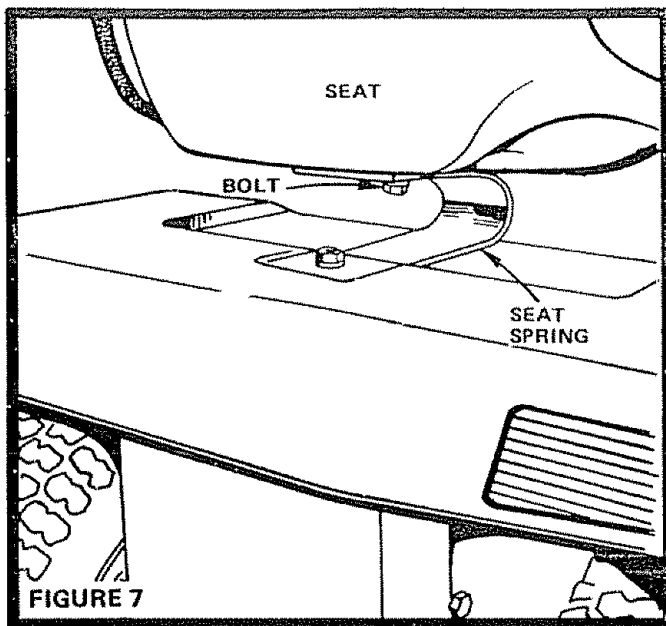

FIGURE 7
- a. Loosen the Bolt beneath the Seat Spring (Fig. 7). Slide the Seat forward or backward. Tighten Bolt securely.